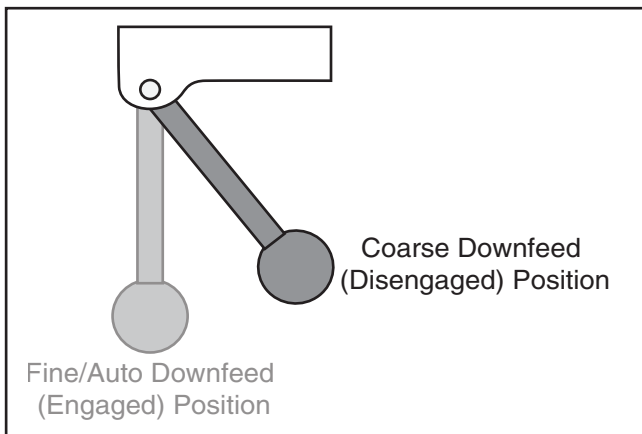

Figure 48. Fine/auto downfeed clutch lever disengaged for auto-downfeed operations.
- Make sure fine/auto downfeed clutch lever is all the way to right in disengaged position (see **Figure 48**) so that spindle will not travel when rotation is started.